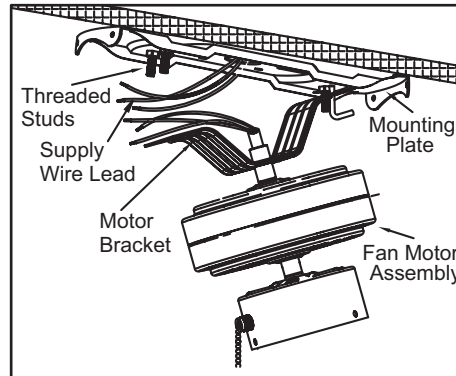
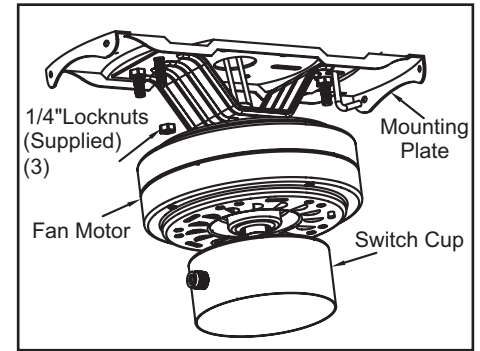

Figure 5
Figure 6
2. Carefully lift the fan motor assembly and engage the slot in the motor bracket with the hook on the mounting plate so that it is securely suspended (Figure 5). Then connect the wiring to your fan according to the section "Making the Electrical Connections".
3. Once wiring is completed, lift the motor bracket so that the threaded studs on the mounting plate protrude through the slots in the motor bracket (Figure 5). Securely tighten the three 1/4" locknuts (supplied) onto the threaded studs, then try to shake the motor bracket to ensure that the assembly is tight (Figure 6).